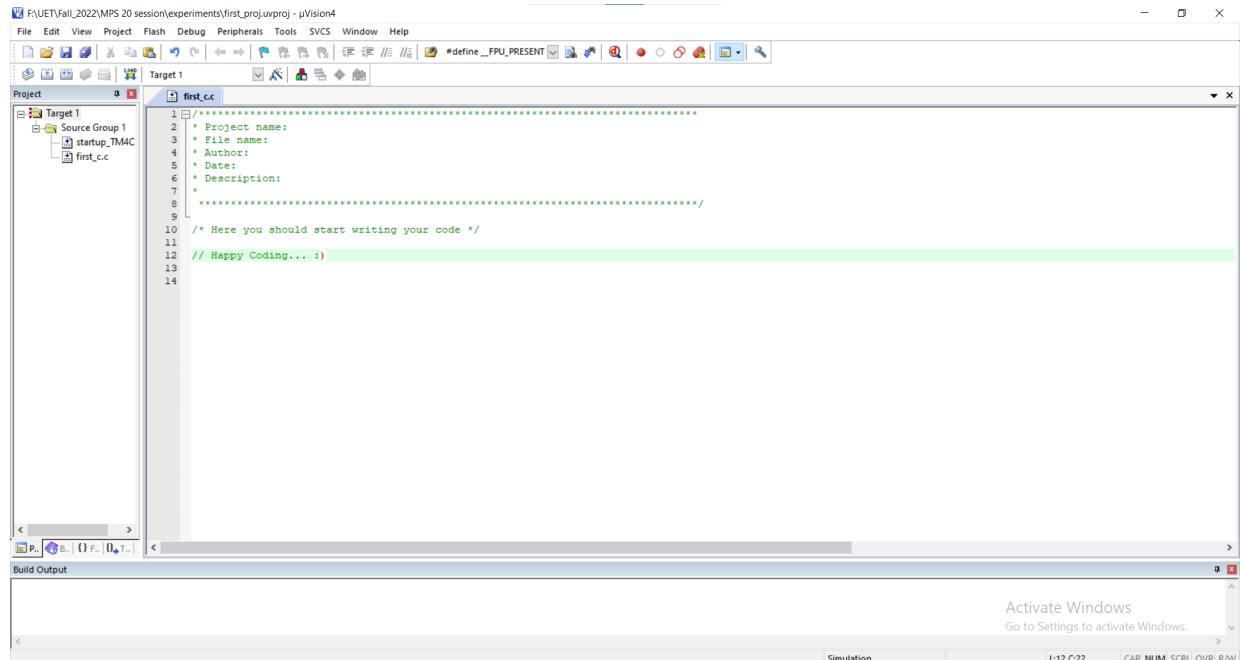

Figure 1.14: Edit the file in the text editor window
7. Double click on the file name under *Source Group 1* in *Project* window to open it in the editor pane. Here, you can write and edit the code (Figure 1.14).